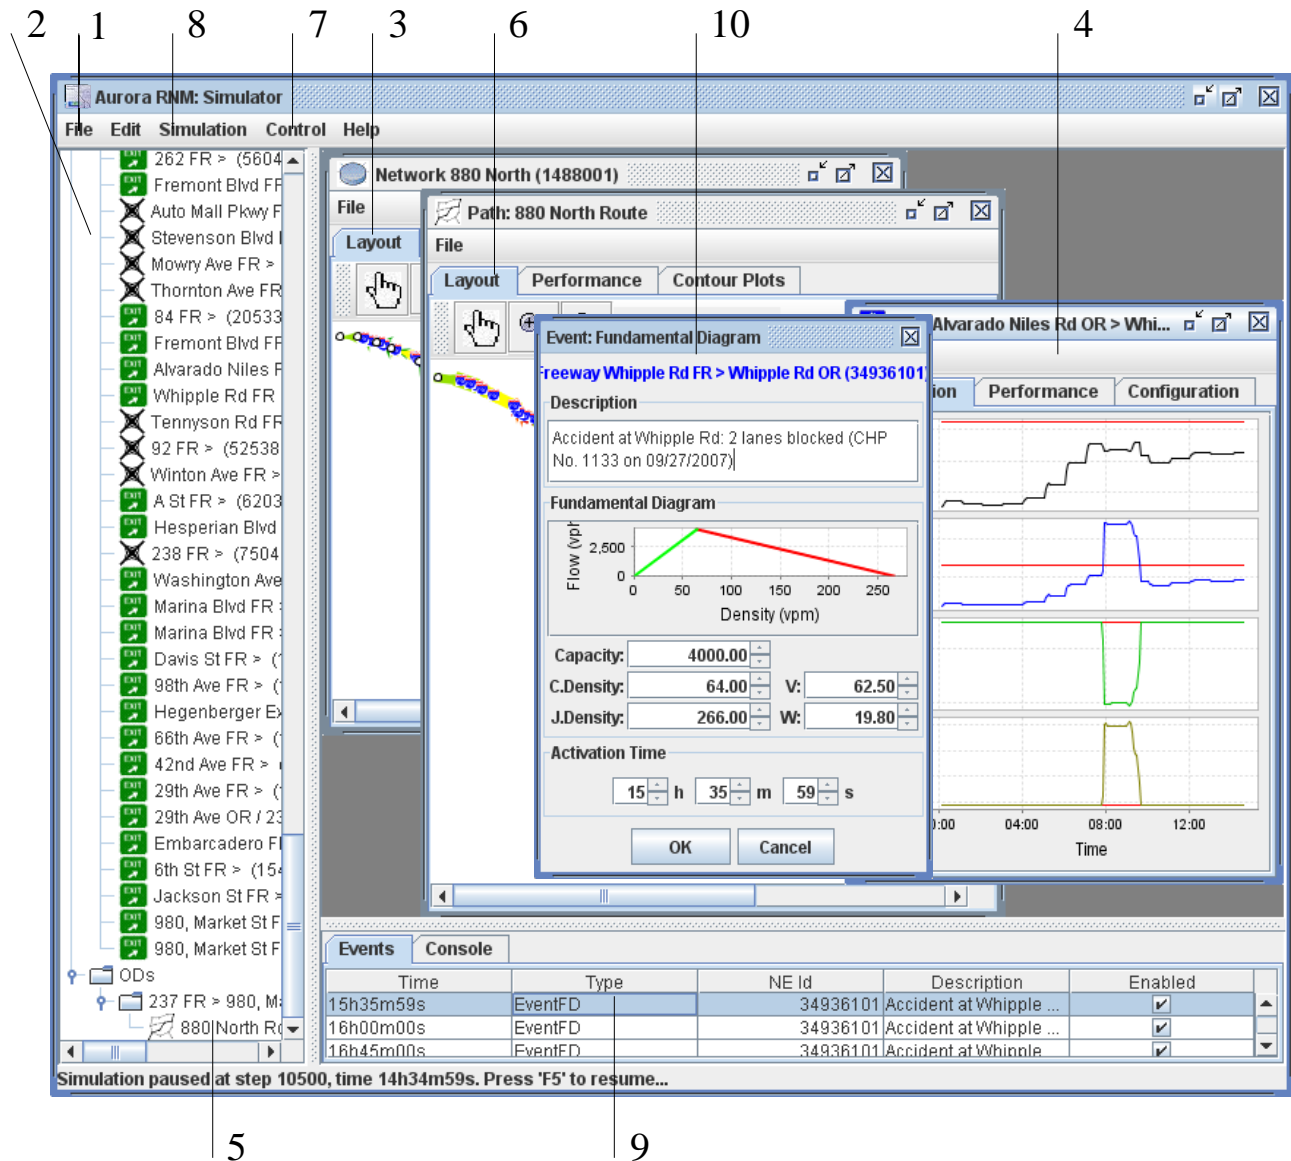

Figure 3-5: Sun Java™ webpage.
1. Visit <http://www.java.com/en/> using the web browser. (Figure 3-5)